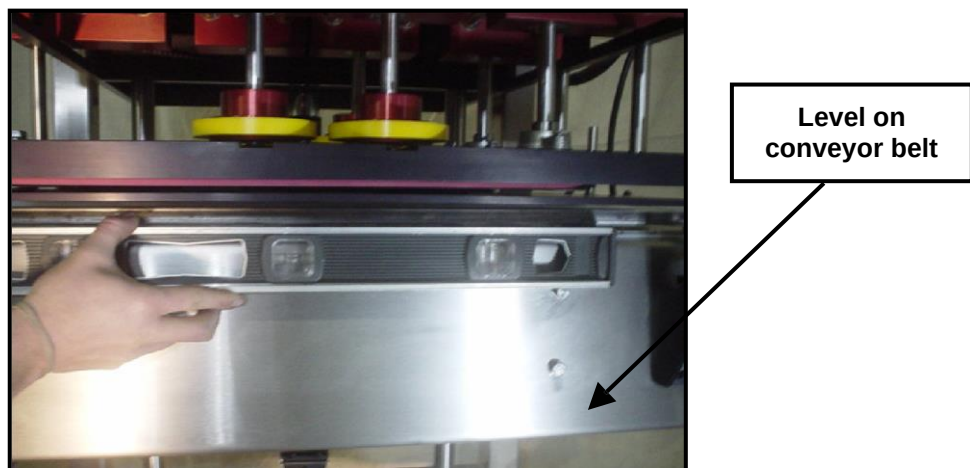

Figure 7. LEVEL THE CONVEYOR BELT.
- 3a. Place a level on the conveyor belt and verify that it is level. Refer to Figure 7.